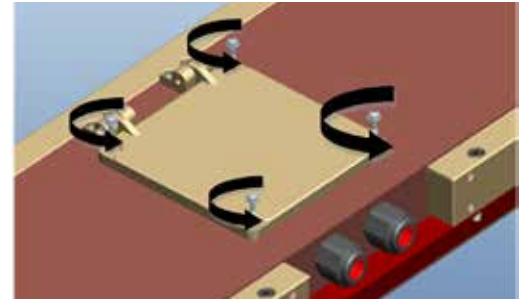

Figure 15. GX Quad-Power Connector
Step 1. Open DC power chamber by loosening the four M3 screws. See Figure 15.